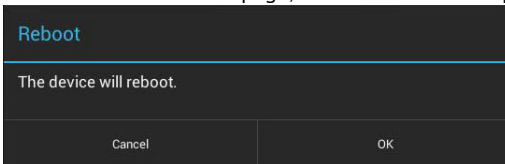

FIG. 11 Reboot window
1. In the *Maintenance* page, select **Reboot**. This opens the Reboot window (FIG. 11).